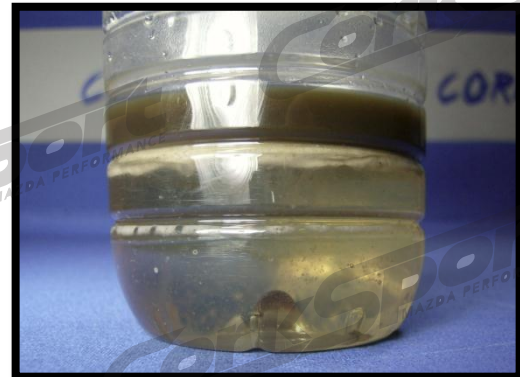

Figure 4a
- a) The CorkSport Oil Catch Can will need to be emptied periodically. A general rule for this is to initially check it at 500 miles (500 miles on test car is shown in Figure 4a).
- a) The CorkSport Oil Catch Can will need to be emptied periodically. A general rule for this is to initially check it at 500 miles. You may see a lot of water collected with the oil. You can quickly view the contents and if it needs to be drained by checking the sight tube on the side of the can (500 miles on test car is shown in **Figure 4a**).